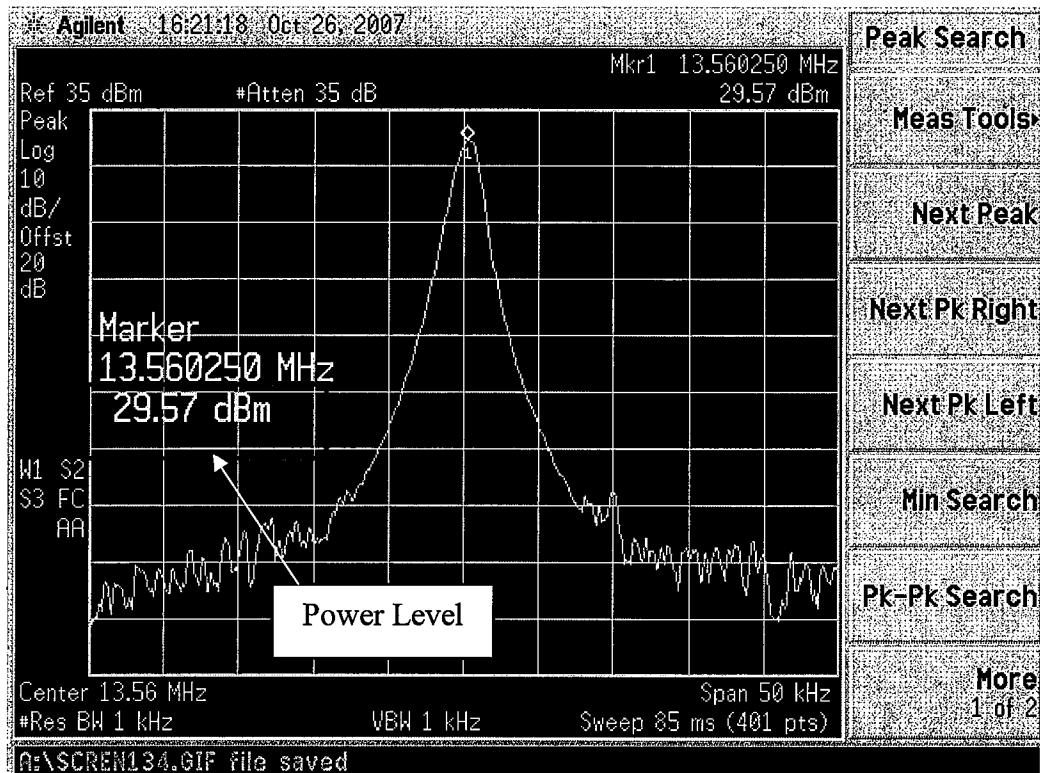

Figure 15
9.8.7 Move the DigiPot Adjustment up or down until you reach a level of 29.5 dBm (+/- .2 dB) as shown in Figure 15. Note in order for the “Fine Adjustment” value to be applied the Adjust button must be clicked for each new setting. **The lower the Fine Adjustment value the higher the RF amplitude.**
9.8.13 Return Reader Antenna Output Power Level to 1 Watt see 9.8.2 thru 9.8.4. The spectrum analyzer screen should look like Figure 15.